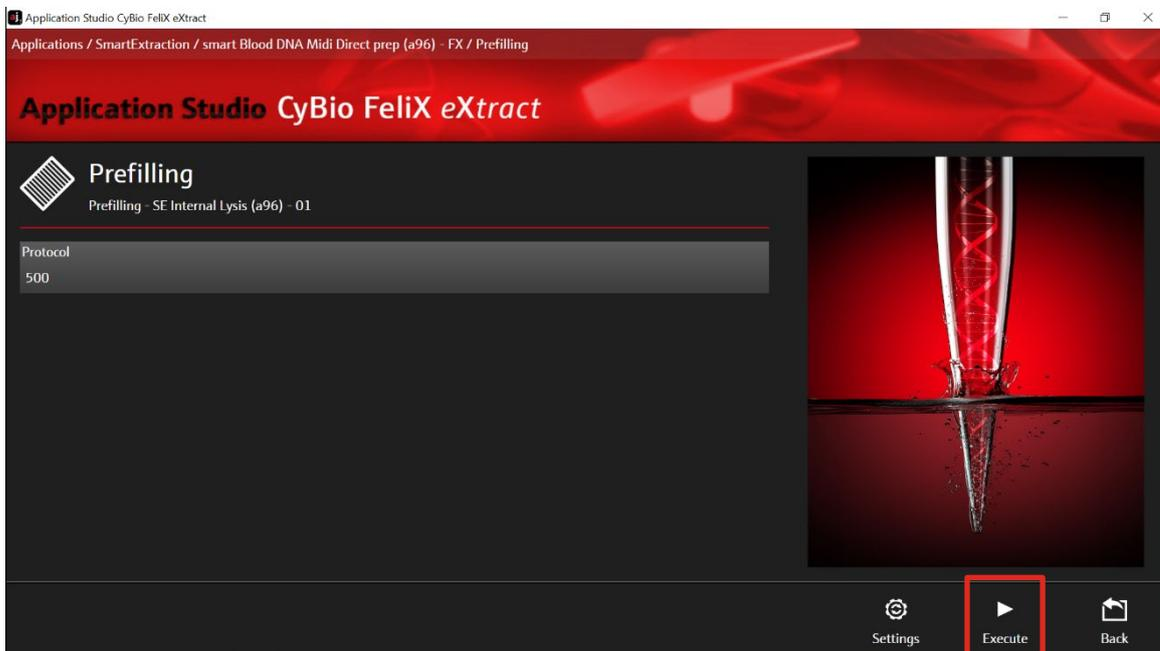

Figure 8: Selection of prefilling protocol for up to 500 µL sample volume.
19. To adjust the sample volume, click the button "Protocol" and select "500" for up to 500 µL sample volume (→ see Figure 8).